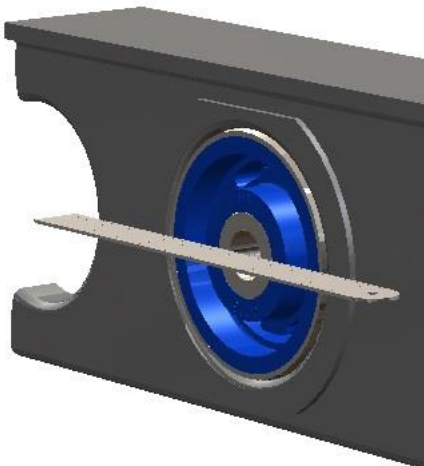

Fig 5 Ensure the bushing is pulled in flush
9. Using a steel rule or similar check the outer shell is sitting flush with the sub frame see Fig 5
10. Raise the differential back into place and using the new supplied washers and bolts fasten through the bushes to the back of the diff cover See Fig 5 re use the OE pinion bolt and fasten off the pinion bushing to the subframe.